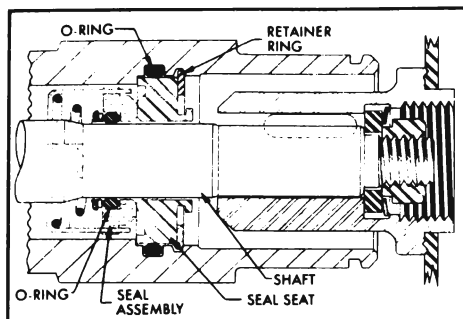

Figure 11-40—Shaft Seal Assembly
Components of the seal located in the neck of the front head of the compressor are the retaining ring, the small O-ring, the compressor spring-loaded shaft seal, the cast iron seal seat and the large O-ring. See Figure 11-40. The seal indexes with two flats machined on the compressor shaft and turns with the compressor shaft.
**NOTE:** O-ring is located in front head as shown in Figure 11-40 and is difficult to see.
1. Install a new seal seat O-ring in its groove inside front head. Be sure it is not in retaining ring groove. See Figure 11-40.